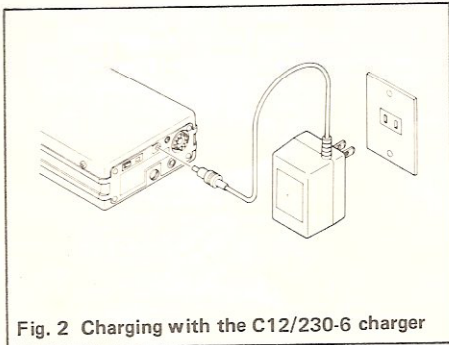

Fig. 2 Charging with the C12/230-6 charger
This socket accepts a Ni-Cad battery charger (see Fig. 2).
3. Plug the optional charger into the charging socket (23) on C58 for charging (see Fig. 2).